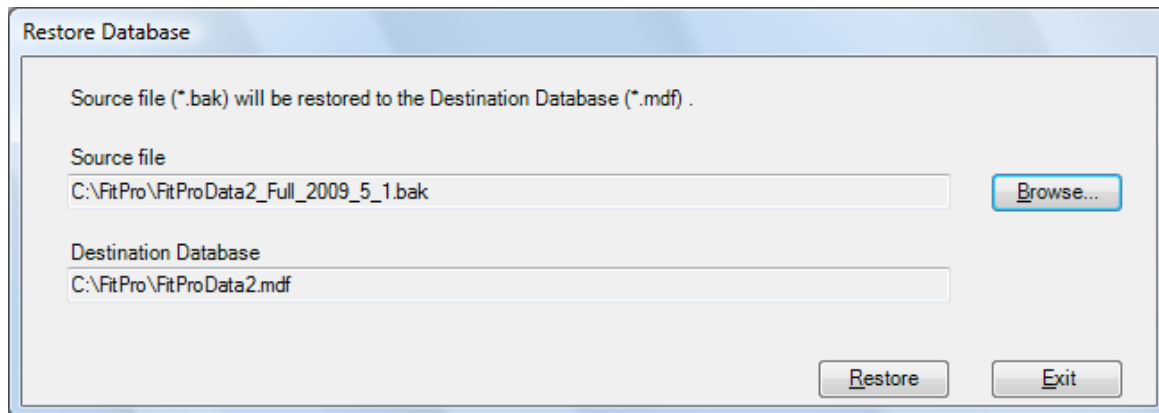

Figure 29. Restore Database Dialog
1. Select **D**atabase | **R**estore. The restore database dialog (Figure 29) appears.